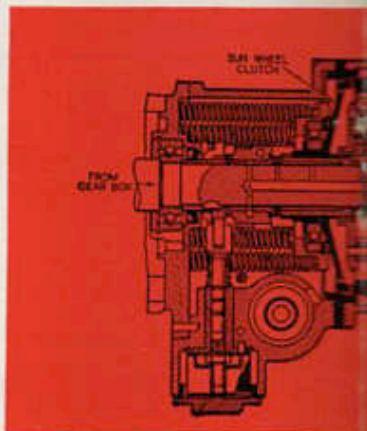

Fig. 2
When in direct top gear (see Fig. 2) the overdrive is, of course, inoperative. The drive from the gearbox to the propellor shaft is taken through the rollers (A) from the gearbox main driving shaft (B) to the outer member of the uni-directional clutch (C), and so direct drive is transmitted.